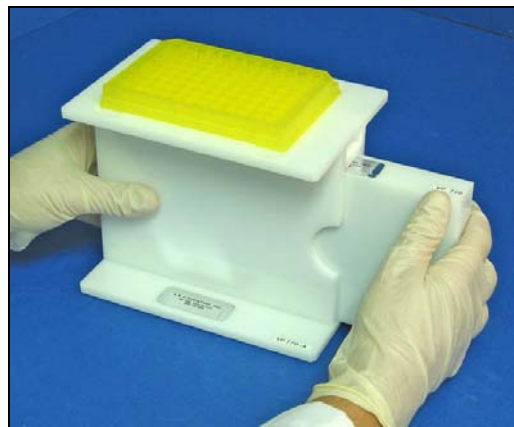

Figure 5. Inserting the Magnetic Block VP 770 into the Magnetic Block Holder VP 770-A
5. Insert the Magnetic Block VP 770 into the Magnetic Block Holder VP 770-A (see Figure 5).